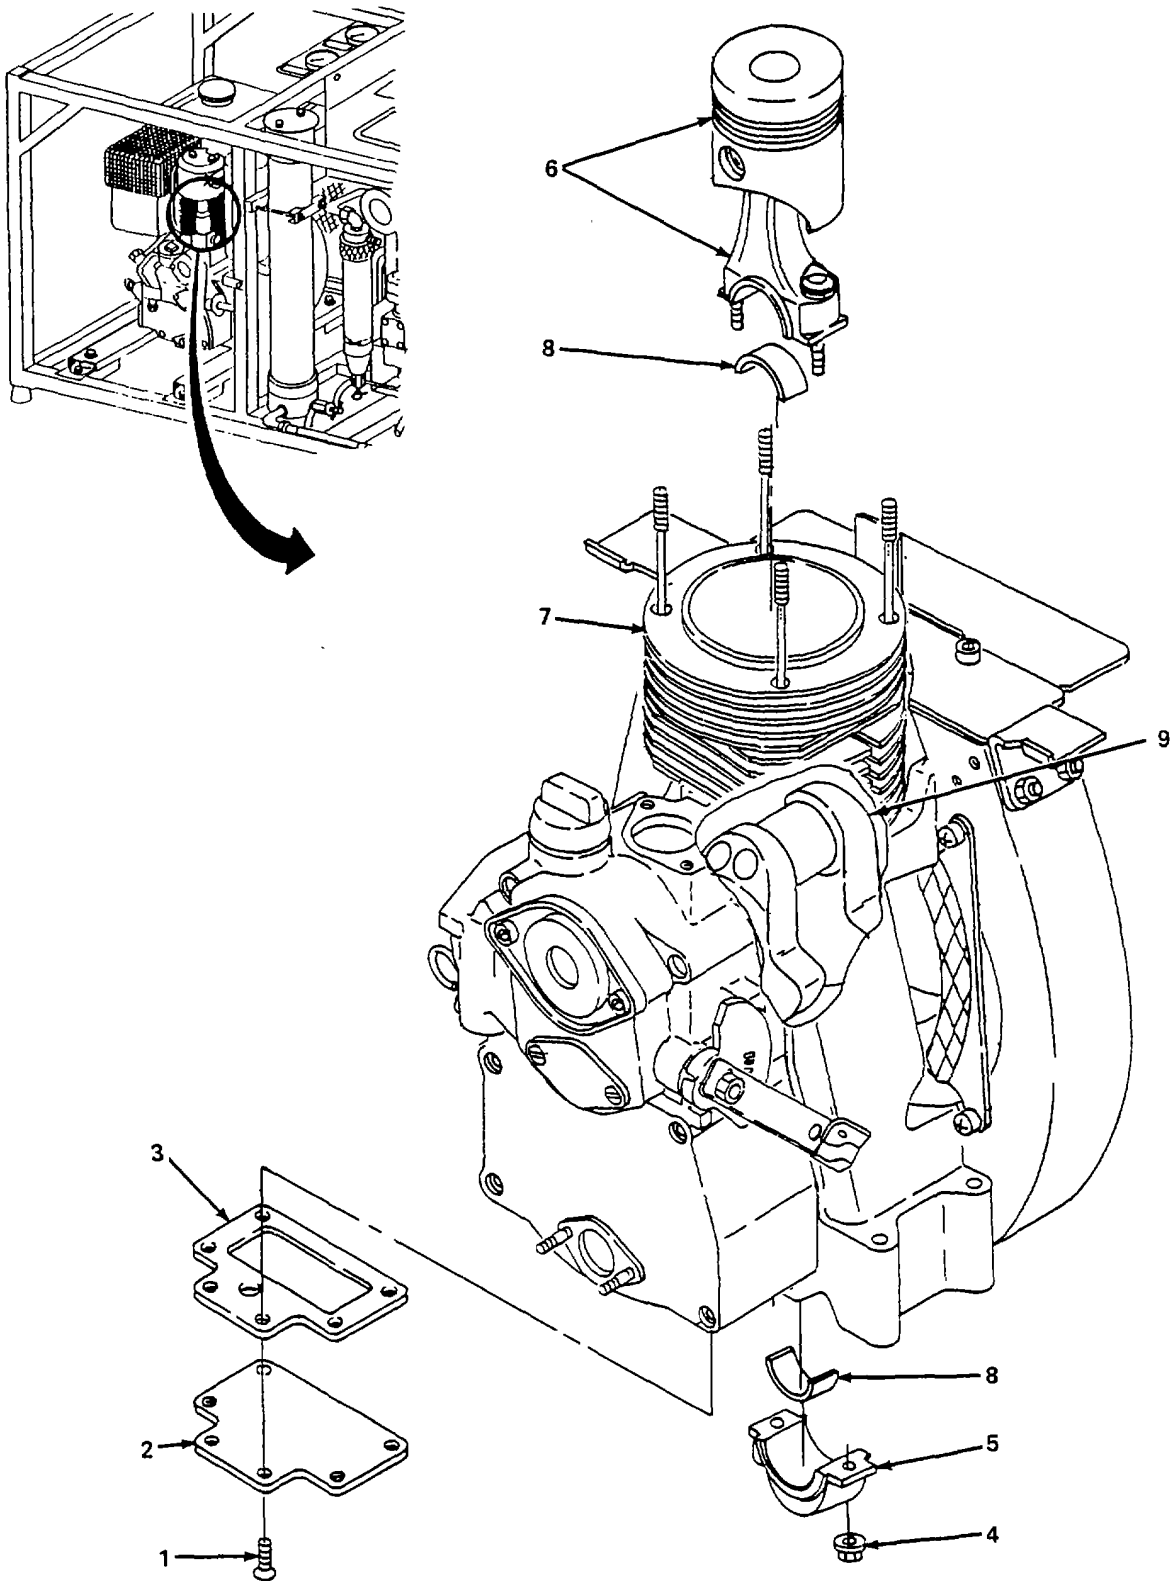

Figure 6-19. Piston and Connecting Rod Assemblies, Replace.
a. Replace. (figure 6-19)
- (1) Remove six screws (1), cover (2), and gasket (3).
- (2) Remove two nuts (4) and bearing cap (5).
- (3) Push piston and connecting rod (6) out of cylinder (7).
- (4) Remove bearings (8), and discard.
- (5) Install new bearings (8) in new connecting rod (6) and bearing cap (5).
- (6) Install ring compressor on piston (6).
- (7) Install piston and connecting rod (6) in cylinder (7).
- (8) Ensure connecting rod seats completely on crankshaft (9).
- (9) Install bearing cap (5) and secure with two nuts (4). Torque nuts to 22 lb-ft (30 Nm).
- (10) Install gasket (3), cover (2), and secure with six screws (1).